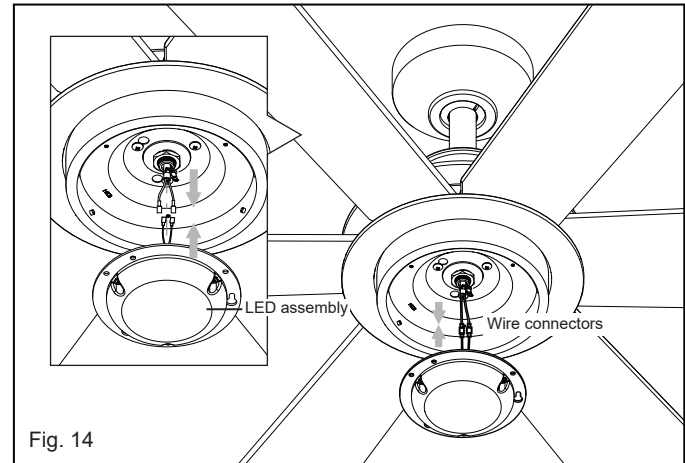

Fig. 14
- 1 While holding the LED assembly under your fan, make the polarized plug connections: (Fig. 14)